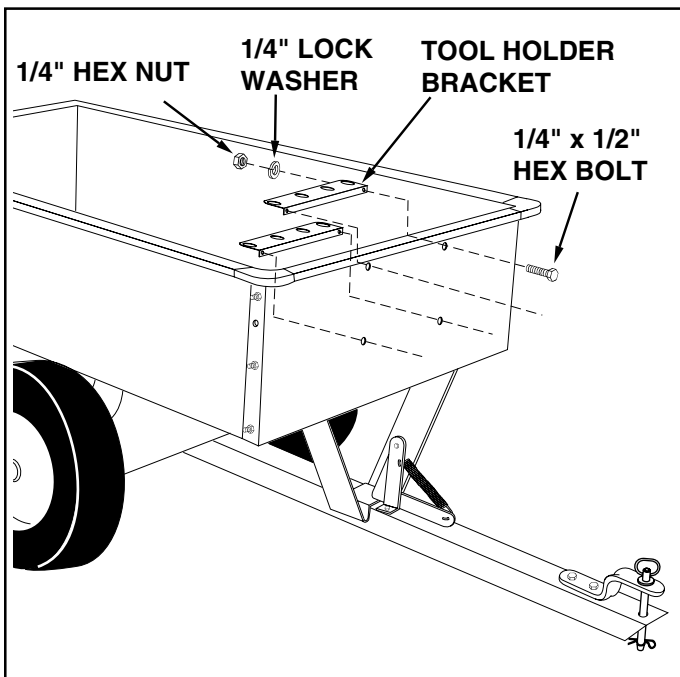

FIGURE 13
19. To mount the tool holder brackets to the front of the cart it will be necessary to drill four holes in the front panel of the cart. (Recommended hole size is 9/32" diameter.) The tool bracket holders may be used to locate hole positions by placing the bracket against the front panel and marking the hole locations onto the front panel. The top tool holder bracket should be positioned equally from each side of the cart and even with the top edge of the front panel. The bottom tool holder bracket should be positioned equally from each side of the cart with the top of the bracket approximately six inches up from the bottom. See figure 13.
20. Press the protective edging strips over the top edge of both tool holder brackets. Mount the tool holder brackets on the inside of the front panel of the cart using four 1/4" x 1/2" hex bolts, 1/4" lock washers and 1/4" hex nuts. See figure 13.